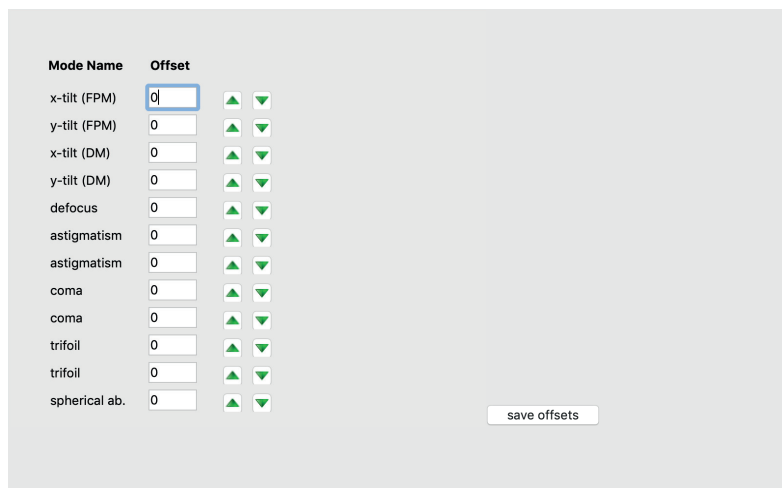

Fig. 5: window to control modal offsets
- *mode offsets...* opens a window to control the modal offsets (see Fig. 5) up to spherical aberration.